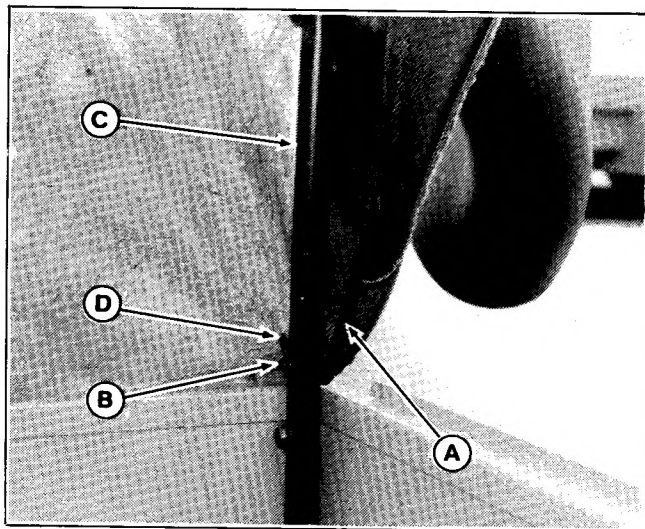

Figure 10.
6. On each side, place the eyebolt end of the support rod (A, figure 10) onto the frame rod (B), then insert frame rod through the frame (C). Insert clip (D) through frame rod to secure.